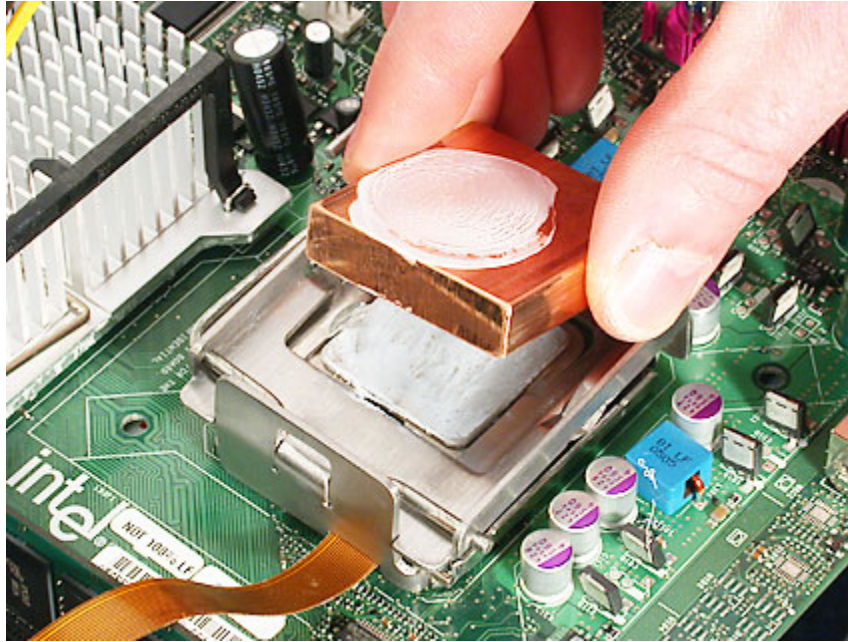

Figure 2.12 Inserting the Heat Sink Spacer after applying heat sink compound
12. Apply a small quantity of heat sink compound to the top of the processor and then place the copper Heat Sink Spacer onto the processor. Slide this copper block around to ensure that the heat sink compound is thinly and evenly smeared across the complete top of the processor (Figure 2.12).